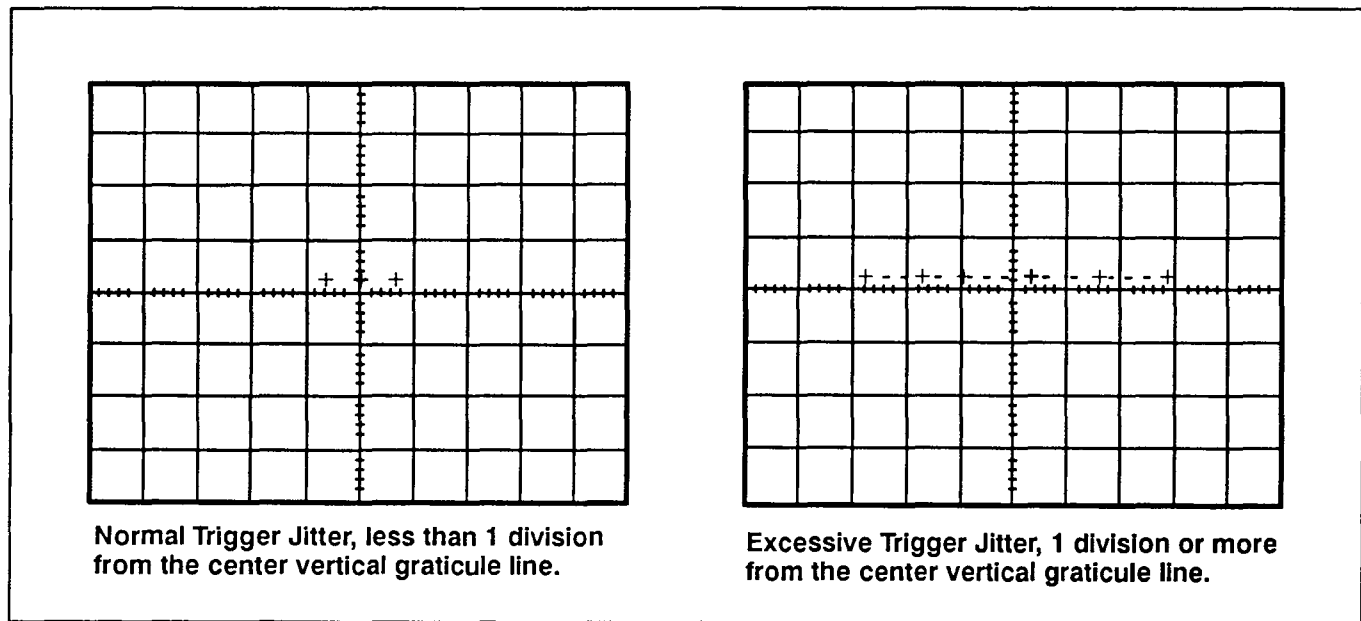

Figure 4-2. Trigger jitter check.
- e. CHECK—that the trigger position indicator (+) remains within the center two horizontal divisions (see Figure 4-2). An occasional jump outside the center two divisions is normal.